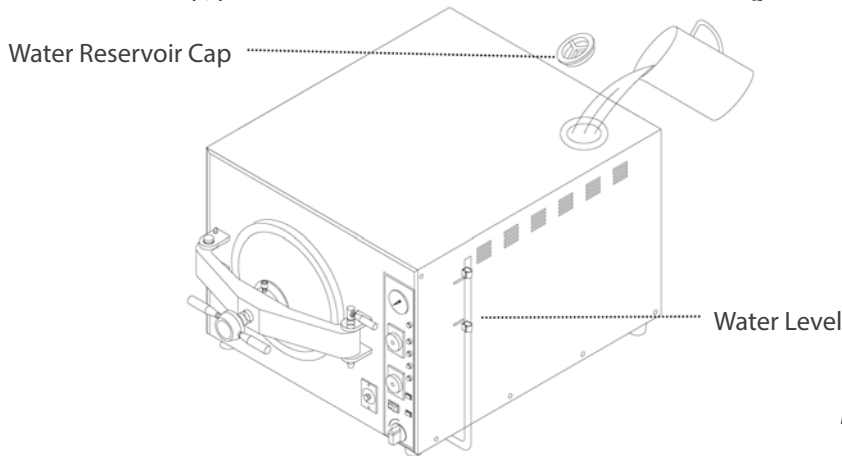

Fig. 3
B. Open the water reservoir cap; pour distilled water into the water reservoir as Figure 3.